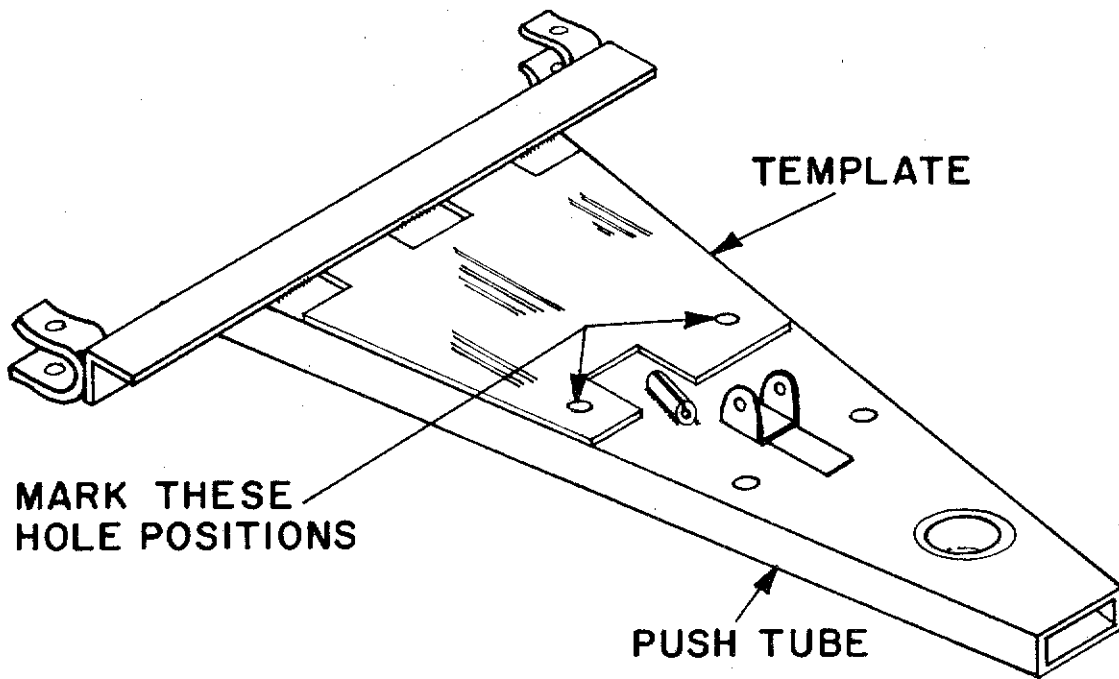

Figure 1: Locating Hole Centers
1. Lay template provided on snow/dozer blade push-tube top-surface as shown in Figure 1.